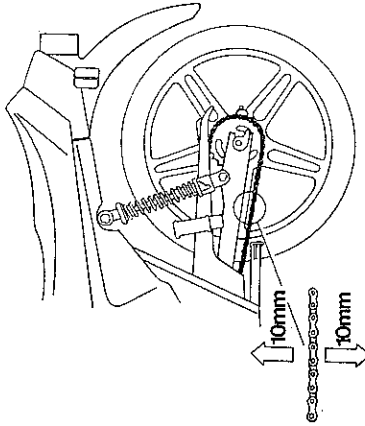

fig. 9
Chain must be tensed so as to allow a movement of 10 mm up and 10 mm down (fig. 9). The correct tension is adjusted by turning the chain tension adjusters (pos. 17, fig. 1, 3) round the rear wheel knock-out axle. Upon adjustment effected, tight on again the two nuts on the wheel axle which had been partly unscrewed before adjustment.